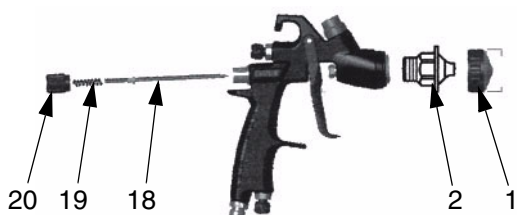

FIG. 6
1. Unscrew air cap (1). FIG. 6.
3. Remove fluid adjustment knob (20) and spring (19). FIG. 6.
4. Pull needle (18) out the back of the gun.